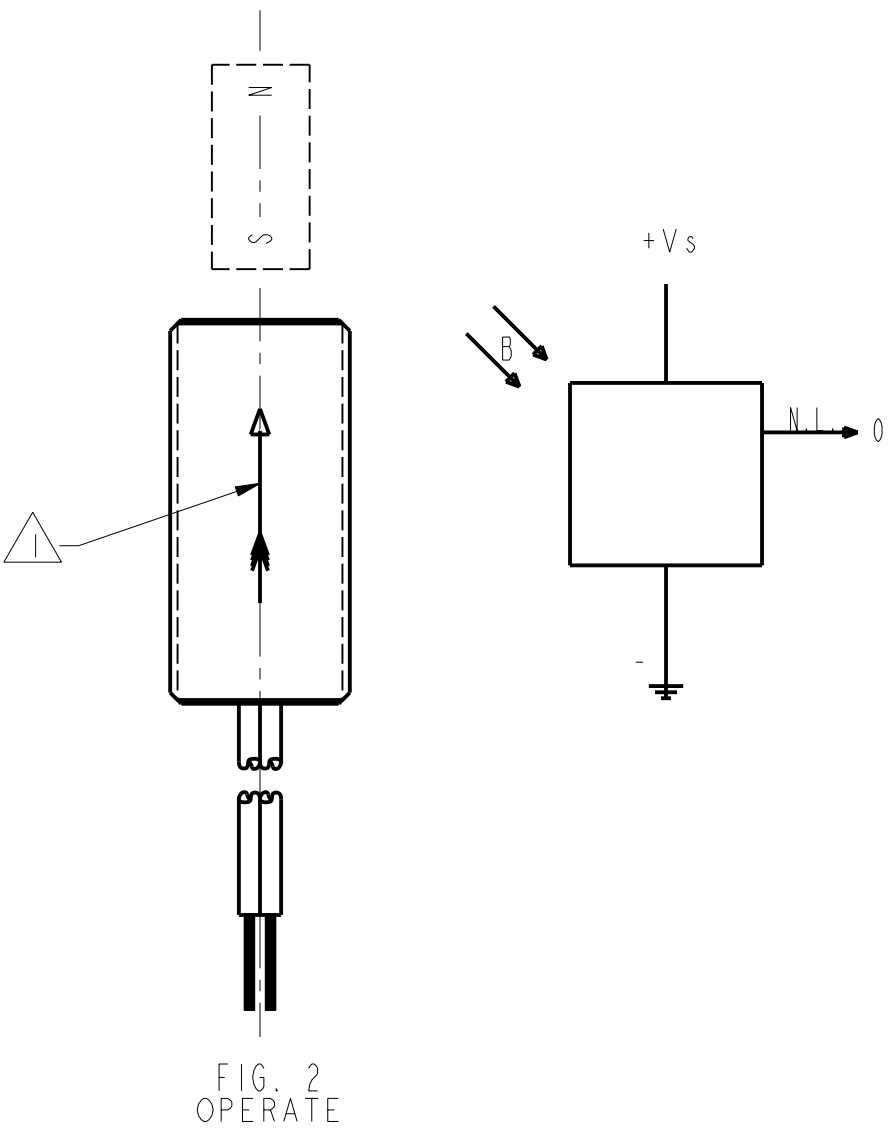

FIG. 2
- 1. FLUX ENTERING THE SOUTH POLE OF THE MAGNET WILL OPERATE THE SENSOR WHEN MAGNET IS POSITIONED AS SHOWN IN FIGURE 2. THIS ASSUMES THE CONVENTION THAT THE DIRECTION OF THE EXTERNAL FLUX OF A MAGNET IS FROM THE NORTH TO THE SOUTH POLE OF THE MAGNET